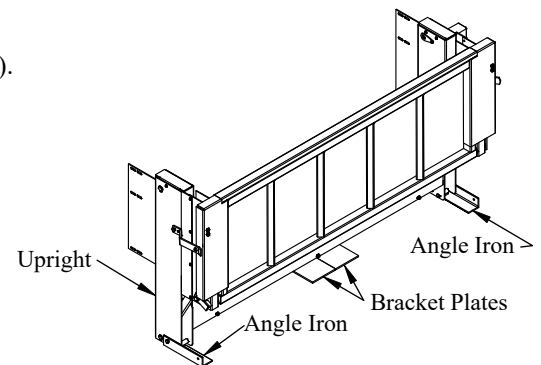

Figure 2: Complete liftgate.
4. Unbolt and Save the two (2) angle irons attached to the liftgate uprights (Figure 2).
5. Remove and Save the two (2) bracket plates attached to the liftgate (Figure 2).